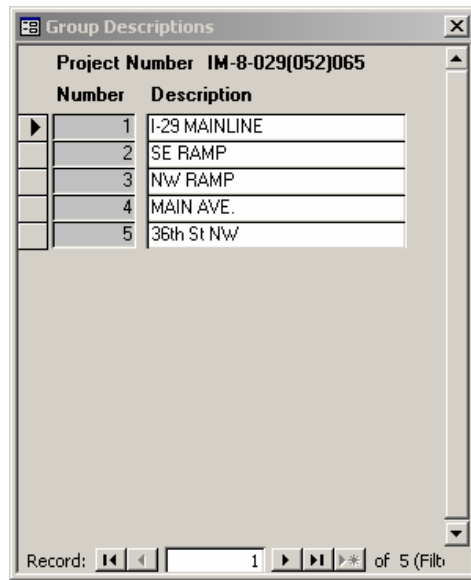

Figure 5 – Edit Group Description Dialog Box
20. **Edit Group Description**{ XE "Edit Group Description" } : Button used to edit the existing groups within the active project. After the Groups have been added into the project using the **Group No** field, you can change the description using this screen (see Figure 5.)